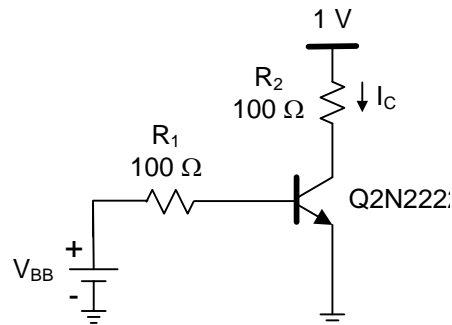

Fig. 4. BJT transistor circuit 2
1. Obtain the value of I_S from a simple simulation of the transistor: using the setup of Fig 4, excluding the resistors, apply $V_{BB} = 0.65$ V, measure I_C while $V_{CE} > 0.5$ V and use equation 1. Assume that $n = 1$. Use the Q2N2222 BJT in the simulation.
4. Construct the circuit shown in Fig. 4 in PSpice. Place a current marker on the collector of the Q2N2222. Run a DC Sweep on the V_{BB} voltage source to generate the input characteristics. Do a linear sweep starting at 0 V and ending at 2 V with a linear increment of 5 mV. Modify the x-axis variable to be the V_{BE} voltage, not V_{BB} . Comment on your results for all regions of the plot.